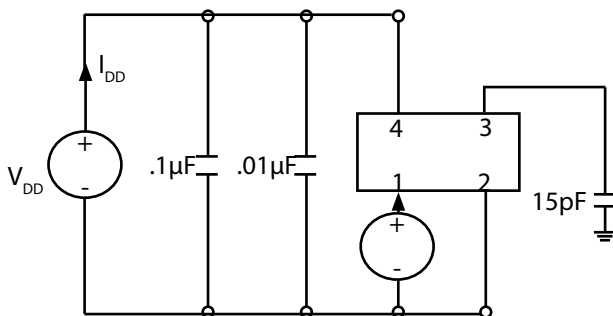

Fig 1: Test Circuit
- 2) Parameters are tested with the test circuit shown in Fig 1.
2] Parameters are tested with the test circuit shown in Fig 1.
- 2] Parameters are tested with the test circuit shown in Fig 1.